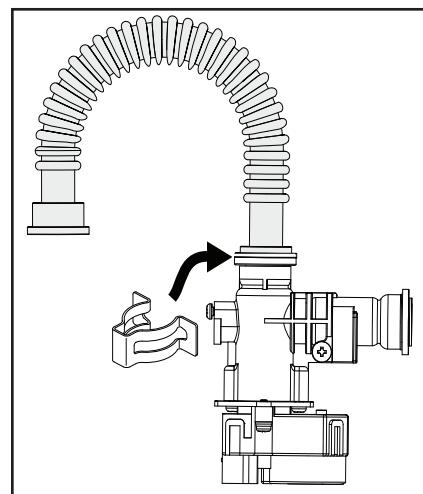

Figure 50 - Install Flex Hose to Smart Valve
- Remove new Smart Valve from service kit. Install male end of flex hose with small O-ring (14.5mm) to Smart Valve outlet as shown in Figure 50.
**12** Remove one (1) spring clip from kit. Install spring clip over Smart Valve outlet and flex hose to secure the assembly as shown in Figure 50.